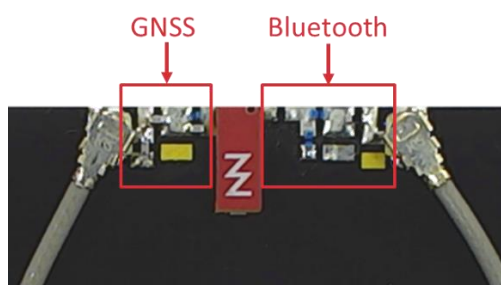
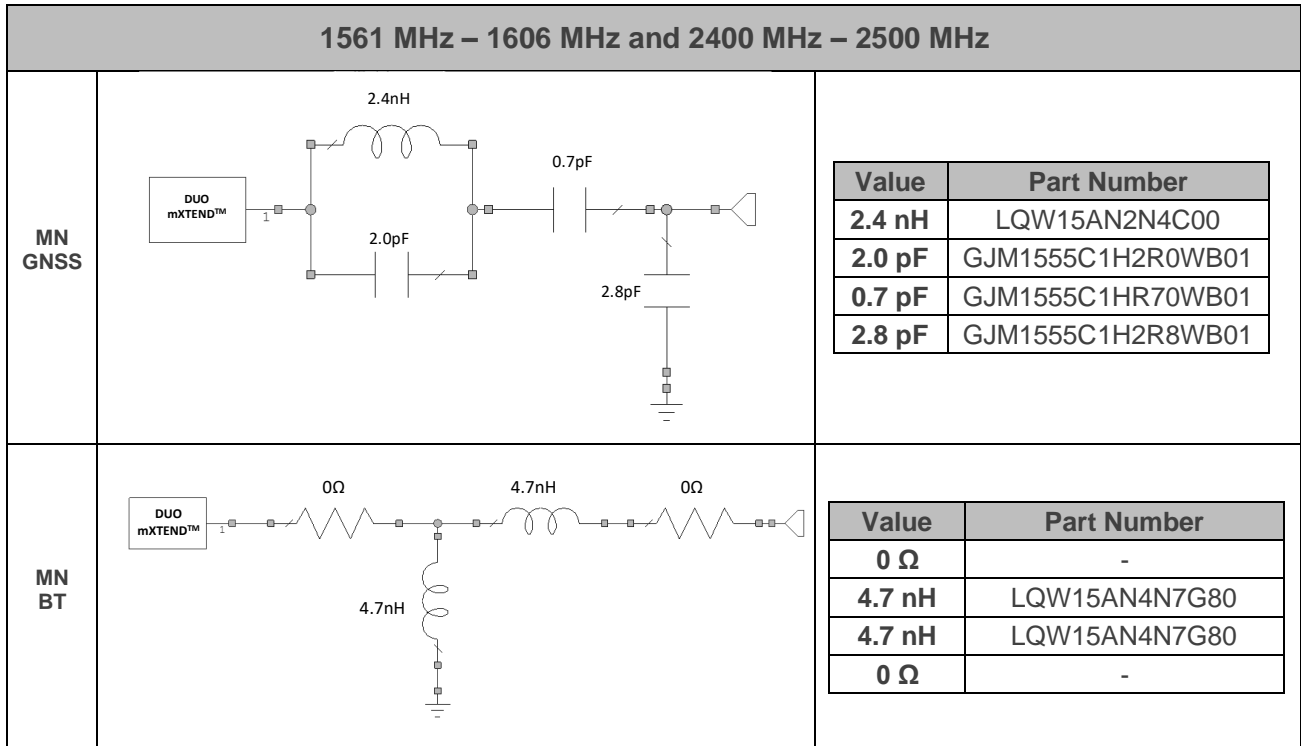

Figure 2 – Matching network distribution in the Evaluation Board (Figure 1).
Figure 3 – Matching network implemented in the Evaluation Board 1 port (Figure 1).
The DUO mXTEND™ needs two matching networks to connect to your device, a first for the Bluetooth port, a second for the GNSS one (Figure 2). This section describes (in Figure 3) a suitable matching network for the DUO mXTEND™ and the resulting product specs when measured in the reference evaluation board (EB_NN03-320-m-GNSS-BT) described in the previous section. Please note that different tracking devices with different form factors, RF ground planes, and nearby components may need a different matching network. If you need assistance to design your matching network beyond this application note, please contact support@ignion.io, or if you are designing a **different device size** or a **different frequency band**, we can assist you in less than 24 hours. Please, try our free-of-charge¹ Oxion™ platform, which will get you a complete design report including a custom matching network for your device in 24h¹. Additional information related to Ignion's range of R&D services is available at: <https://ignion.io/rdservices/>
To ensure optimal results, the use of high-quality factor (Q) and tight tolerance components is highly recommended (e.g., Murata components with part numbers as in Figure 3). The antenna performance is always conditioned by its operating environment so that different devices with different printed circuit board sizes, components nearby the antenna, LCDs, batteries, covers, connectors, etc. affect the antenna performance. Accordingly, it is highly recommended placing pads compatible with 0402 and 0603 SMD components for a matching network as close as possible to the feeding point of the antenna element. Do it in the ground plane area, not in the clearance area. By tuning the matching network in your final design with your final surrounding components (batteries, displays, covers, etc.) you will be able to optimize the antenna performance without changing the antenna part.